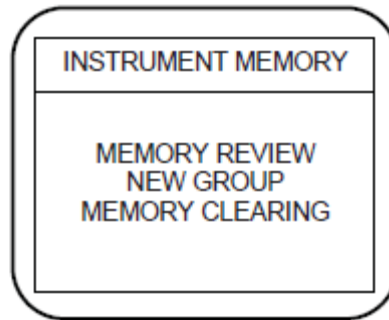

Figure 7
To accomplish it by pressing the «▼» button place the cursor on the menu option named "MEMORY". Press the «↵» button. The graphic display will look like the one depicted in Fig. 7.
2.8.2 Place the cursor on the menu option "INSTRUMENT MEMORY". Press the «» button. The graphic display will look like the one depicted in Fig. 7.